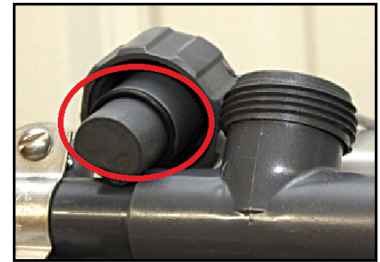
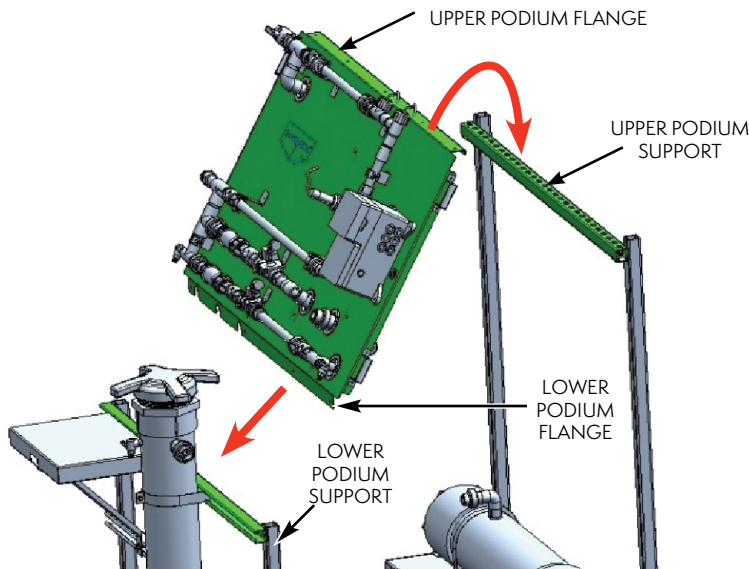

Figure 7 – O-Ring for Conductivity Probe
Figure 8 – Mount Podium Module
2.9 **This step requires 2 people:** Rest the Upper Podium Flange over the Upper Podium Support as shown in Figure 8, making sure that the probe wiring is clear of the podium support. Loosely secure the Lower Podium Flange to the rear of the Lower Podium Support. Then loosely secure the Upper Podium Flange. This hardware will be tightened after piping is completed. See Figure 8. Reinstall conductivity probe and flow switch into their respective manifolds, first making sure that O-rings are in place. See Figure 7.
- 2.12 Once piping is completely installed, tighten podium flange hardware ensuring podium is secure. Reference Section 2.9 and Figure 8.